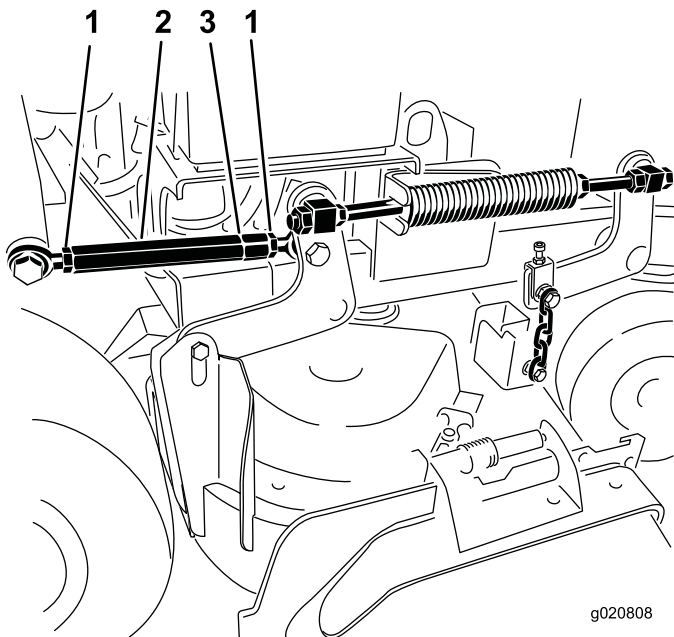

Figure 87
4. Loosen the jam nuts at both ends of the turnbuckle (Figure 87).
Note: The end of the turnbuckle with the groove machined in it has left threads (Figure 87).